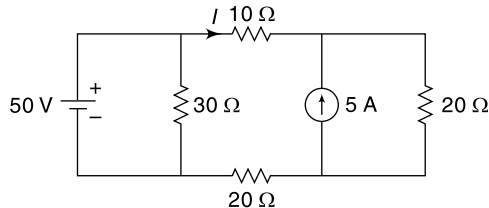

Fig. 4.78 Circuit of Ex. 4.52
4.52 Obtain I using the Superposition theorem for the network shown in Fig. 4.78.